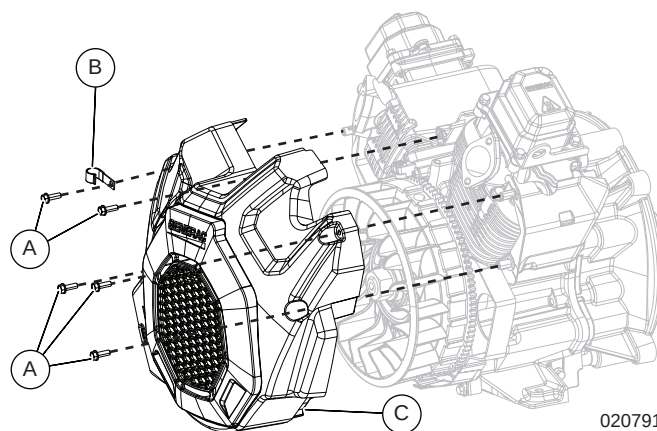

Figure 6-26. Remove Blower Housing
1. See Figure 6-26. Remove five fasteners (A), oil drain J-clip (B), and blower housing (C).